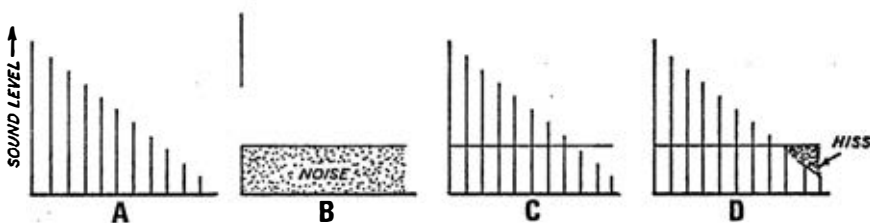

Fig. 9 THIS SEQUENCE OF DIAGRAMS SHOWS THE OBTRUSIVE EFFECT OF INHERENT NOISE ON TAPE RECORDING PLAYBACK
This is the principle employed in the Dolby system (also known as DNL or dynamic noise limitation, although there are other dynamic systems employed in audio engineering). It can be explained simply by reference to the series of designs in Figs. 9 and 10. The first (Fig. 9) shows at A an original passage of sound, indicated by vertical lines, the height of which is proportional to the loudness of the individual sounds making up that particular passage. The second diagram (B) shows the noise level inherent in the apparatus being used to record that passage, e.g. a tape recorder, with a characteristic level of 'hiss'. Diagram